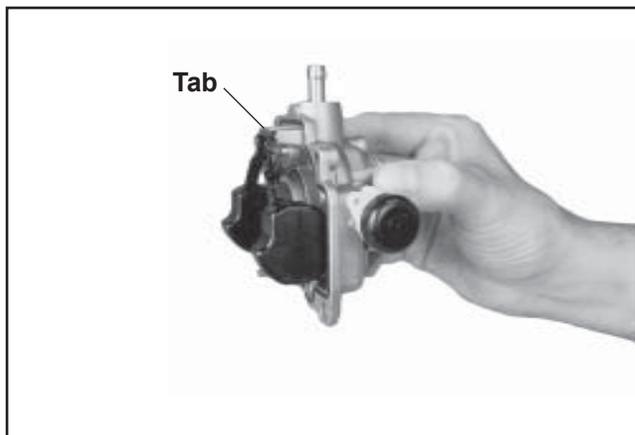

Figure 5-5. Carburetor Float Adjustment.
5. Hold the carburetor air horn so that the float assembly hangs vertically and rests lightly against the fuel inlet needle. The fuel inlet needle should be fully seated but the needle tip should not be depressed. See Figure 5-5.